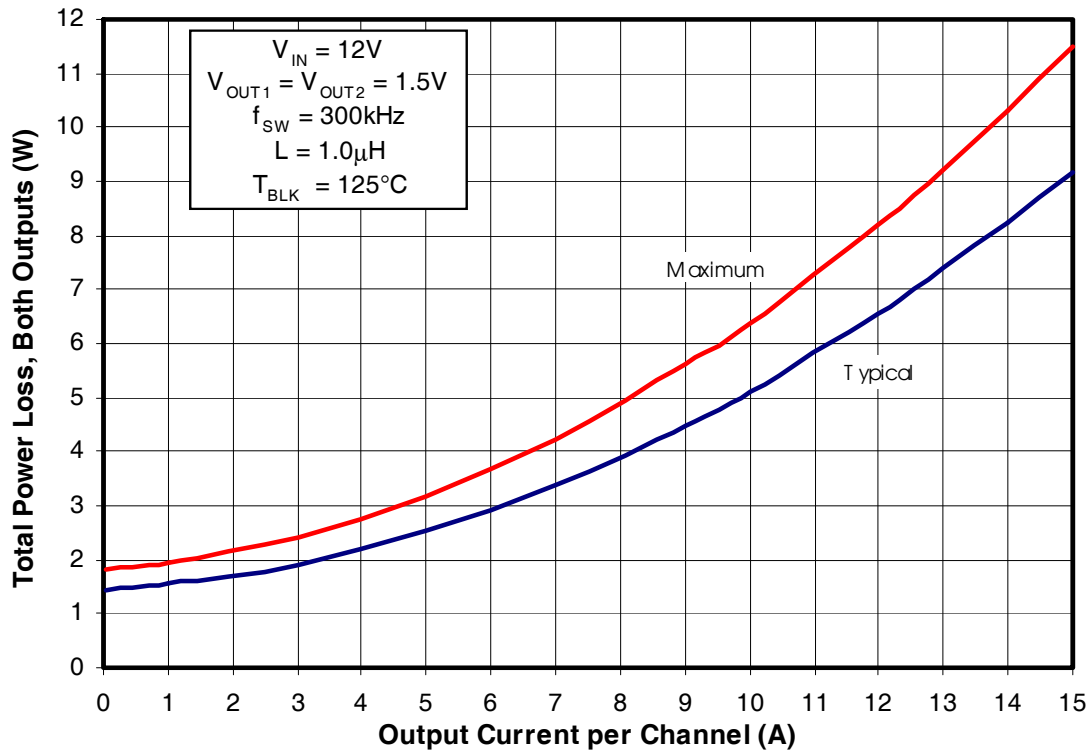

Fig. 2: Power Loss vs. Current
To make adjustments to the power loss curves in Fig. 2, multiply the normalized value obtained from the curves in Figs. 4, 5, 6 or 7 by the value indicated on the power loss curve in Fig. 2. Remember that the power loss in Fig. 2. is the power loss for 2 outputs operating with the same output voltage. If differing output voltages are used the initial power loss for each channel needs to be divided by 2. Then if multiple adjustments are required, multiply all of the normalized values together, then multiply that product by the value indicated on the power loss curve in Fig. 2. The resulting product is the final power loss based on all factors. See example no. 1.
- Output1 (Fig. 2) Maximum power loss = $W 8.25/2 = 4.125W$
- Output2 (Fig. 2) Maximum power loss $= 6.4W / 2 = 3.2W$